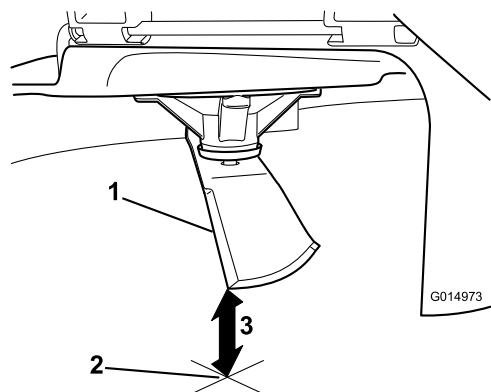

Figure 96
5. Measure from the tip of the blade to the flat surface (Figure 96).